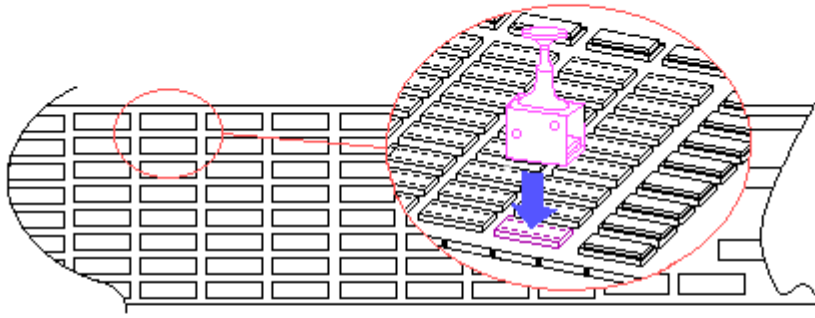

Figure 7.10-7. Replacing a Defective Memory Chip
3. Using the special IC insertion tool, replace the defective memory or ROM chip(s) (Figure 7.10-7).